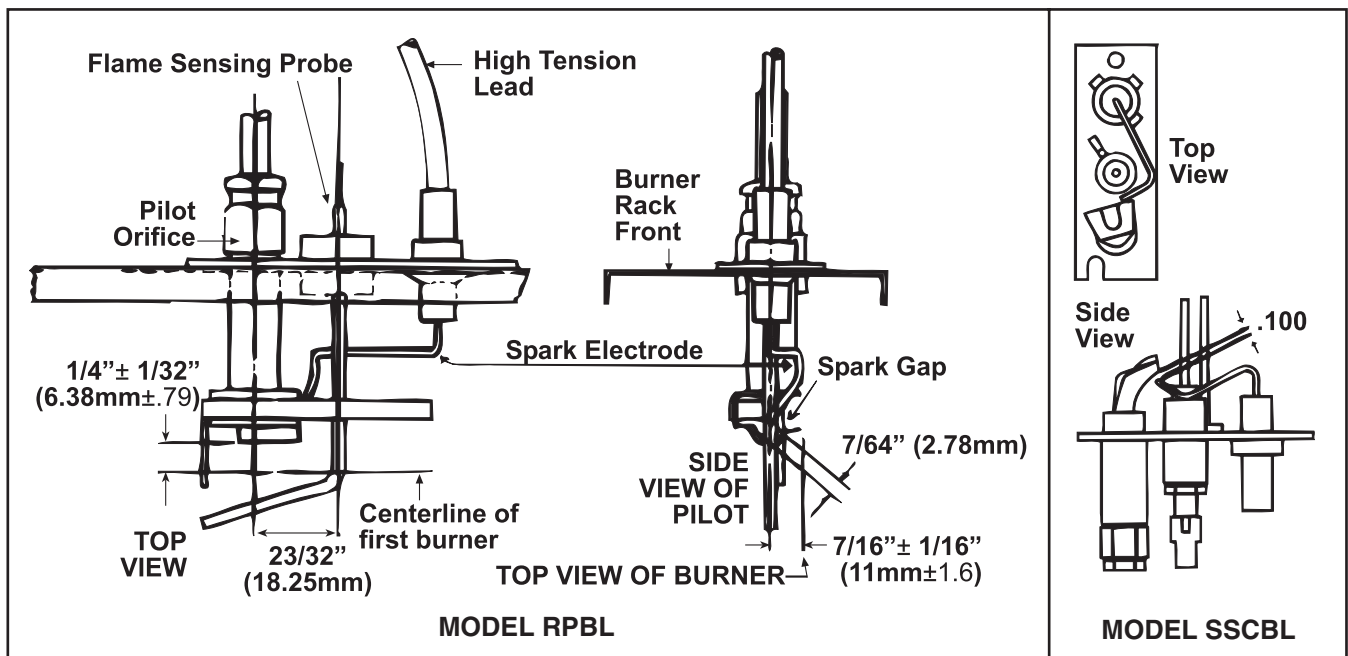

Figure 50. Pilot Assembly Spark Gap
4. Check the spark gap (see Figure 50), which should be maintained to 7/64 inch for RPBL models or 0.100 inch for SSCBL models.
- c. Verify that pilot spark gap (see **Figure 50**) is approximately 7/64 inch for RPBL models or 0.100 inch for SSCBL models.